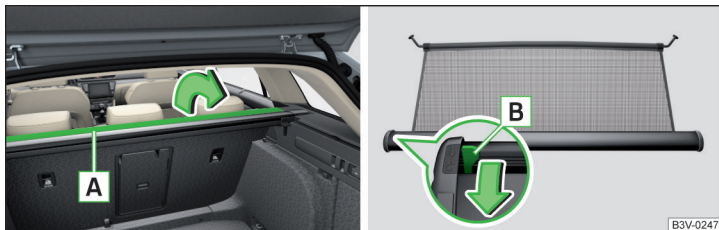

Fig. 161 Open part of the roll-up luggage compartment cover / release lever
- › Fold out part **A** of the roll-up luggage compartment cover in the direction of arrow » Fig. 161.
- › Fold back part **A** of the roll-up luggage compartment cover in the opposite direction of the arrow » Fig. 161.
If the net partition blocks when pulling it out, push the release lever **B** in the direction of the arrow » Fig. 161.